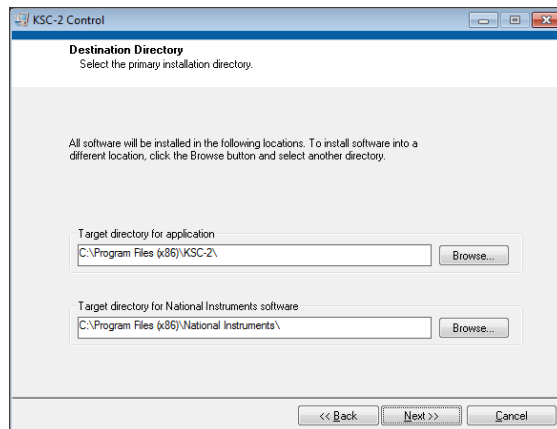

Figure 25 Destination Directory Panel
Step 2 In the Destination Directory panel, shown in Figure 25, select the destination folder for the software program.